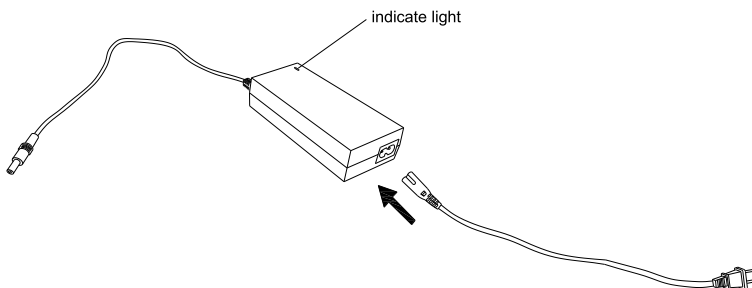

Fig 21
1. Plug the charger's power cord into the charger (Fig 21)